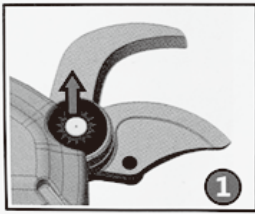

FIG.5
1. Locate the oil inlet on the side of the pruner (Fig. 5).